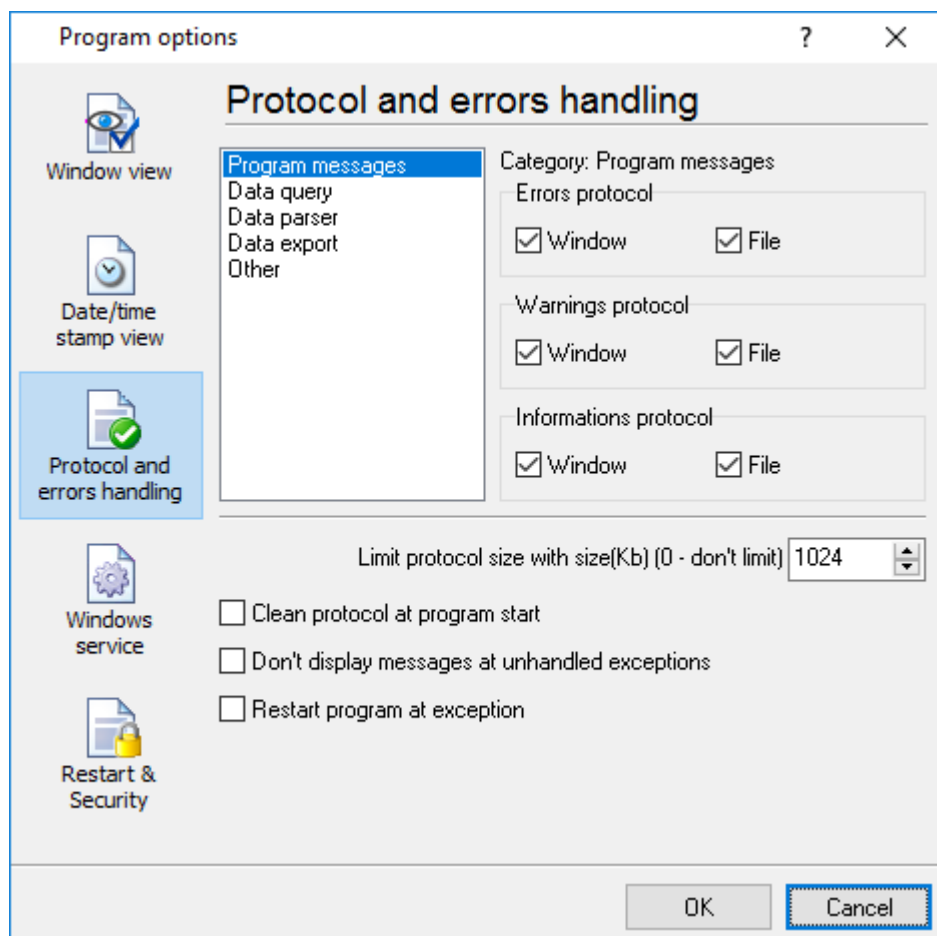

Figure 1. Configuring the program's log file
- 5.1. Enable logging of all messages to the program's log file (Figure 1).